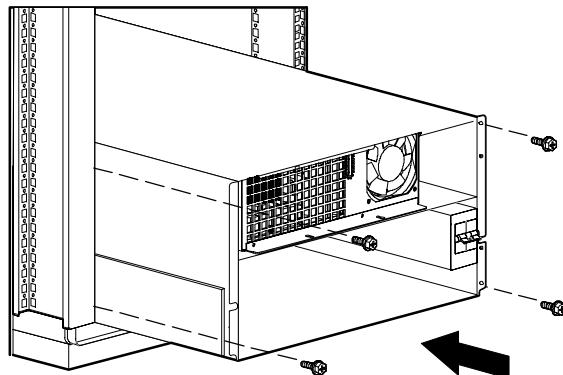

Figure 3. Installing the UPS Chassis
4. Attach the chassis to the rack using the screws supplied with the rack (see Figure 3).